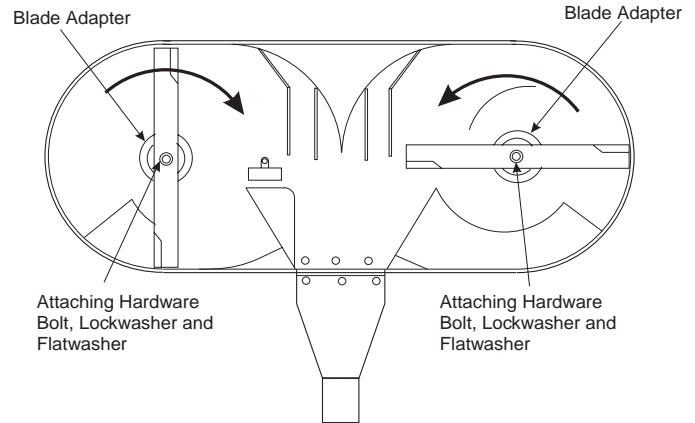

**Figure 7-9 Blade Sharpening**
1. Sharpen the cutting edge at the same bevel as the original. See Figure 7-9. Sharpen only the top of the cutting edge to maintain sharpness.